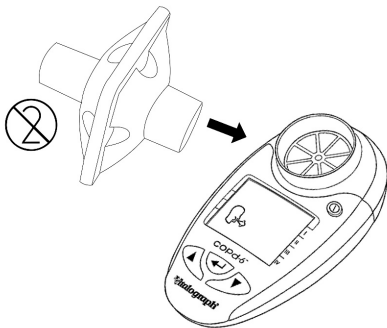

Figure 2. Mouthpiece inserted into flowhead
2. Turn on via the ① On/Off Button. (The same button is used to power down.)
3. Attach a mouthpiece to the flowhead, see Figure 2.